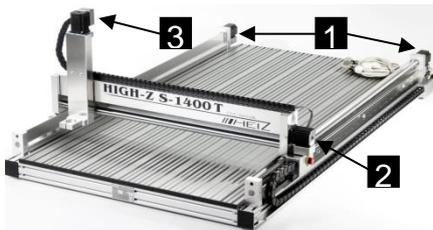

Figure 23: Stepper motors of axes
- X-axis stepper motor (Fig. 23/1) to terminals X1 and X2 of the stepper motor controller
- Y-axis stepper motor (Fig. 23/2) to terminal Y, the stepping motor control
- Stepper motor Z-axis (Fig. 23/3) to terminal Z of the stepper motor controlEmergency stop switch, limit and reference switches to port ST stepper motor control